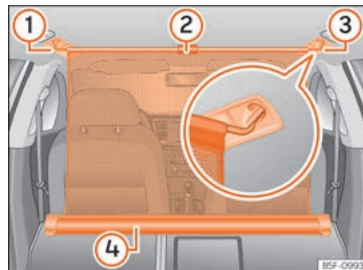

Fig. 182 In the boot: net partition hooked into the rear seat backrests.
- Pull up handle » Fig. 182 ② to remove the net from the casing » Fig. 182 ④.
- Hook in the net partition on the right side » Fig. 182 ③ (magnified image).
- Hook in the net partition in the left side housing » Fig. 182 ① pulling the rod.
The net partition is properly assembled when the T-shaped ends are firmly secured in the corresponding housings » Fig. 182 ③ and ①.
- Roll up the net into the casing » Fig. 182 ④ lowering it with your hand.